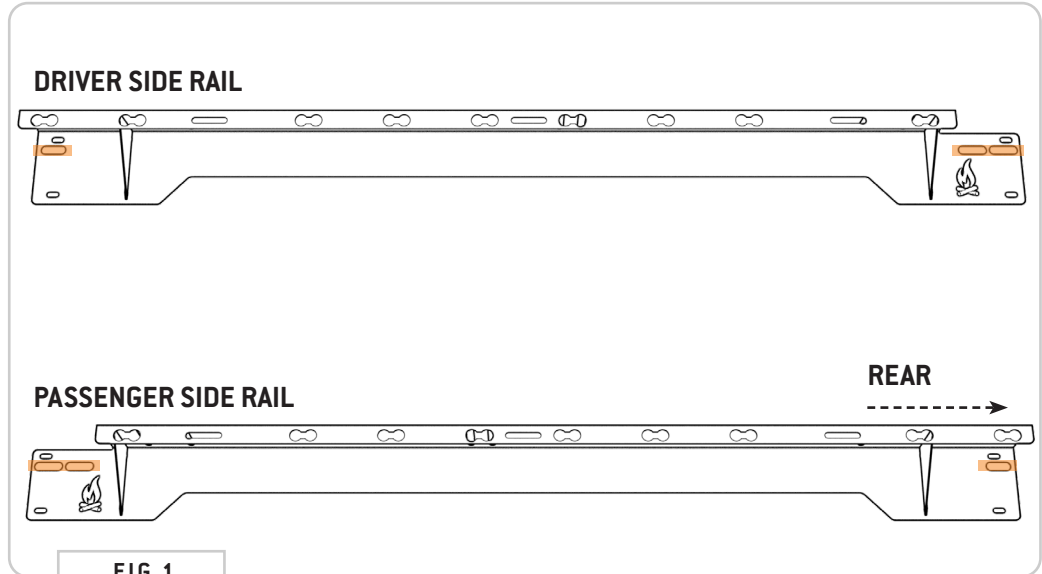

FIG 1
2.1a See mounting slots highlighted in **FIG 1**. These are designed to accommodate L-Track Studs for use when attaching FVC Bed Rails to L-Track.